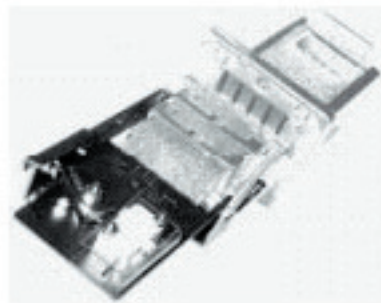

Fig. 2-33
5. Unpack the coinslide and extension and if necessary assemble the coinslide extension onto the coinslide. Coinslides and extensions are available from manufacturers of these devices. Pictured is typical for use on all EMS 1000 models. (Fig. 2-33)